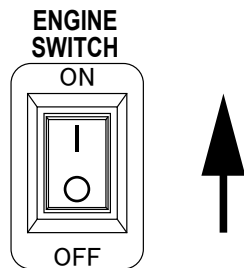

Figure 17. Engine Switch
3. Turn the Engine Switch to the ON position (Figure 17).